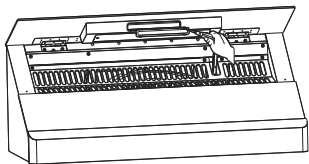

Fig.8
## Light replacement (Fig.8)
- After fully opening the sliding glass panel, remove the power plug, gently pry out the lighting fixture with a screwdriver or a small knife, and pull out the snap-in connector. Then, the lighting fixture can be removed (Fig.8).